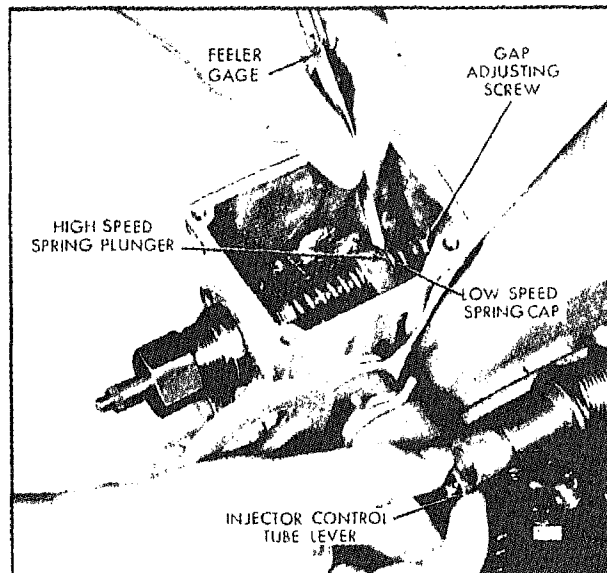

Fig. 1 - Adjusting Governor Gap
7. Check the gap between the low speed spring cap and the high speed spring plunger with a .0015" feeler gage. If the gap setting is incorrect, reset the gap adjusting screw (Fig. 1). If the setting is correct, the .0015" movement can be seen by placing a few drops of oil into the governor gap and pressing a screw driver against the gap adjusting screw. Movement of the cap toward the plunger will force the oil from the gap in the form of a small bead.